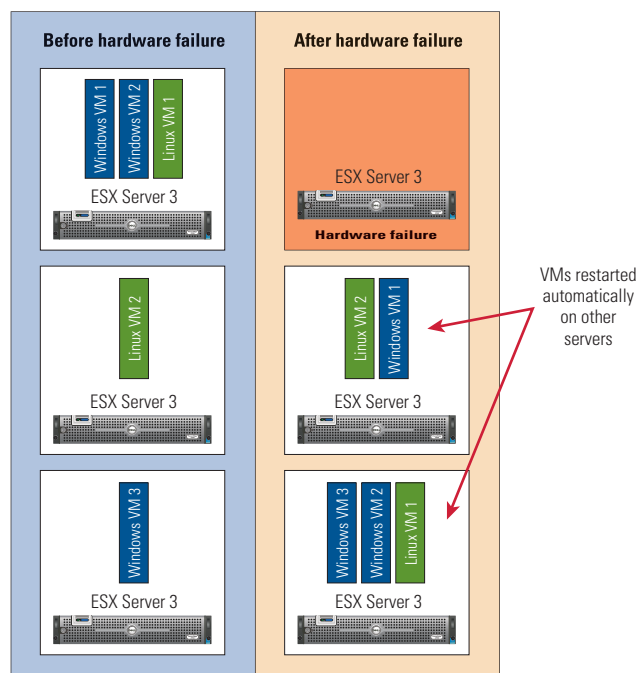

Figure 2. VMware High Availability Services restarting virtual machines on other servers following a hardware failure
Another key feature in VirtualCenter 2.0 is VMware High Availability (HA). VMware HA detects server failures and restarts the VMs on other servers, as shown in Figure 2. This method is similar to the uptime levels provided by Microsoft Cluster Server (MSCS) software, except that DRS can restart the VM on any other available ESX Server host in the appropriate hardware resource pool or VMware HA cluster. MSCS can be used for mission-critical applications, whereas DRS can be used for applications that can withstand minor downtime.